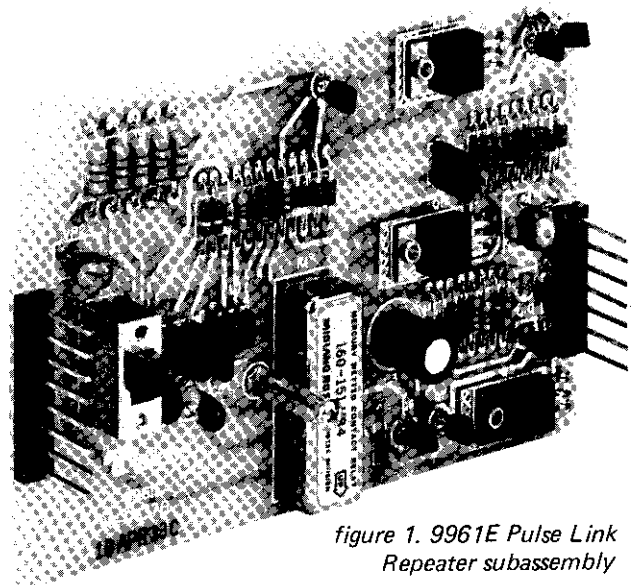

figure 1. 9961E Pulse Link Repeater subassembly
1.01 The 9961E Pulse Link Repeater subassembly (figure 1) provides conversion between E&M facility signaling (E-lead originate) and E&M loop signaling (E-lead or M-lead originate). The 9961E subassembly can be used to interface equipment that originates on the E lead to other equipment that also originates on the E lead (e.g., two carrier systems that both originate on the E lead). In FCC-registered applications, the 9961E can be used to provide wiring protection for the E and M leads. The 9961E is designed specifically for use on Tellabs' 6461, 6461R, and 6462 Common Signaling Modules and on 6971 and 6972 Common Interface Modules.